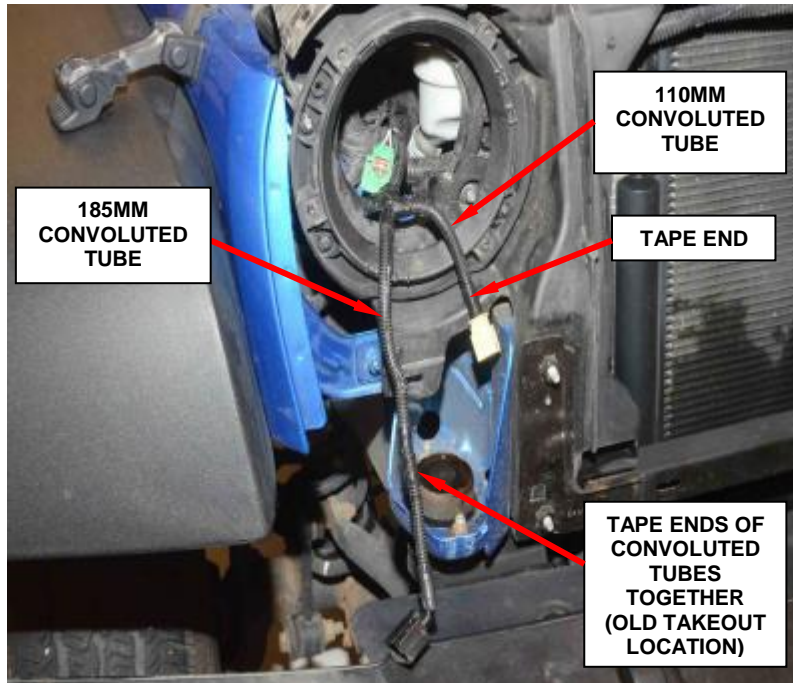

Figure 9 – Install Convoluted Tubes
23. Install the 185mm (7.25in) convoluted tube to wire harness (Figure 9 and 10).
24. Install the saved 110mm (4.5in) convoluted tube to the right front impact sensor wiring pigtail (Figures 9).
25. Tape the end of the convoluted tube at the right front impact sensor (Figures 9 and 10).
26. Tape the convoluted tubes at the old takeout location on the wire harness (Figure 9).